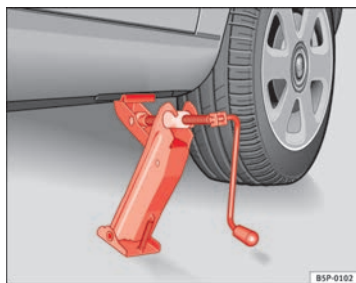

Fig. 181 Fitting the jack
- Align the jack so that the arm of the jack fits around the rib under the door sill and the movable base plate of the jack is flat on the ground → fig. 181.